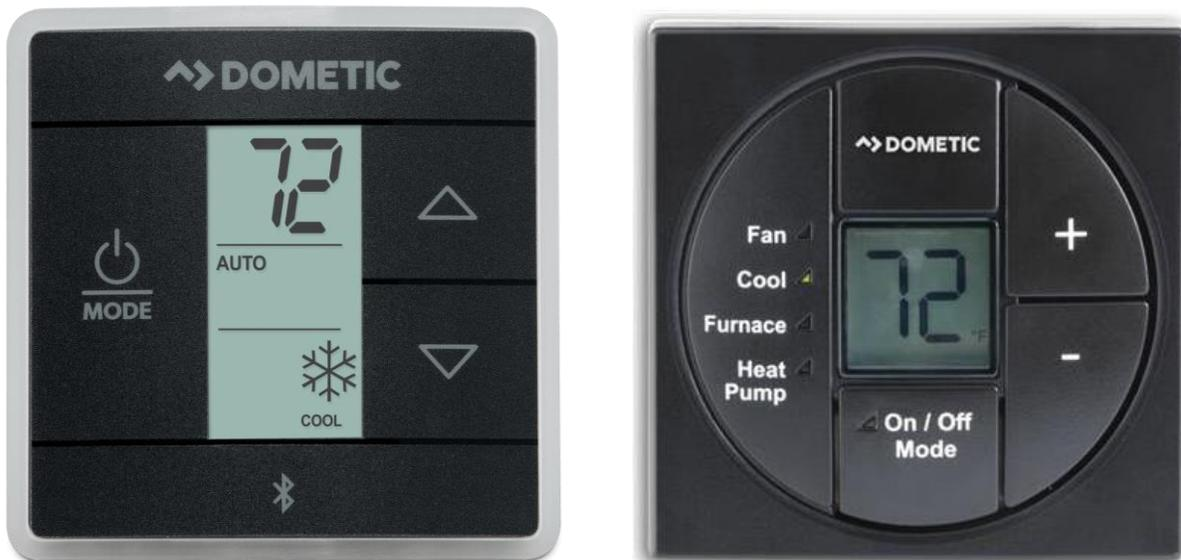

Figure 1 - Examples of the two Dometic™ displays that EasyTouch RV 351 Replaces
EasyTouch RV 351 models are only for use in Dometic™ Single-Zone Capacitive Touch (CT) or Single-Zone LCD (SZLCD) systems. These systems can be identified by the OEM (Original Equipment Manufacturer) display. The 351 is a direct, drop-in replacement of these displays. They are square displays with centered LCD screens and three buttons. Figure 1 shows an example of the two kinds of compatible OEM displays. The color of the plastic and arrangement of markings and LEDs is not important, so long as it has the same plastic form. If you purchased a 351 and your display is not the same form as those in Figure 1 then EasyTouch RV model 351 is not the appropriate replacement for you.
This is the thermostat in *Figure 1* that has the square LCD and raised circular plastic. Depress the rectangular locking tab on the bottom of the display with a small screw-driver. Pull the front of the display away from the wall from the bottom.
This is the thermostat in *Figure 1* that has the rectangular LCD and has capacitive touch buttons. Carefully hold the base of the thermostat at the bottom while pulling the cover plate away from the wall. It is easiest to pull at one of the corners to get the plastic to pop off.